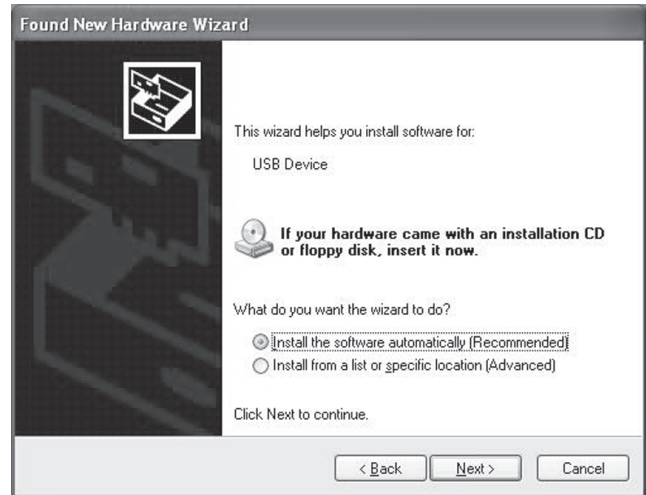

Fig.25
- When another new hardware detection wizard (Fig.25) appears, check that “Install software automatically (recommended)” is selected and then click the “Next” button.